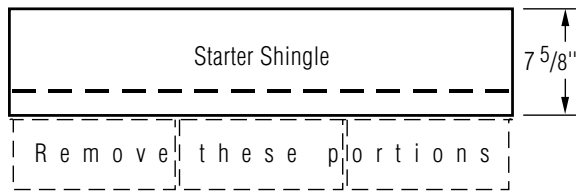

Figure 12-6: Make starter shingles that are 75/8" in height.
1. Use CertainTeed Swiftstart® Starter, or three-tab self-sealing shingles with the lower tab portions removed. Be sure that the starter shingles are at least 75/8" in height. (Figure 12-6).